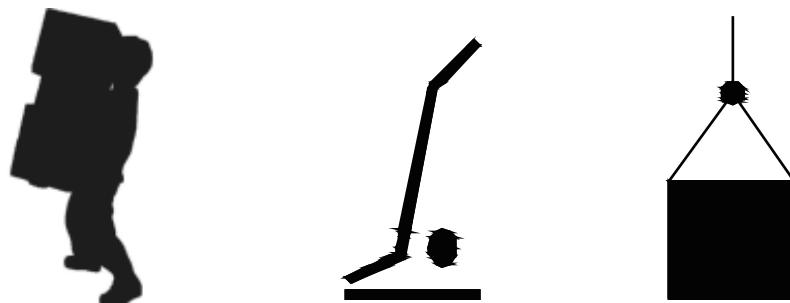

FIG 9-2
- 3、Product handling, generally using portable, car handling and lifting and moving, as shown in the figure 9-2.